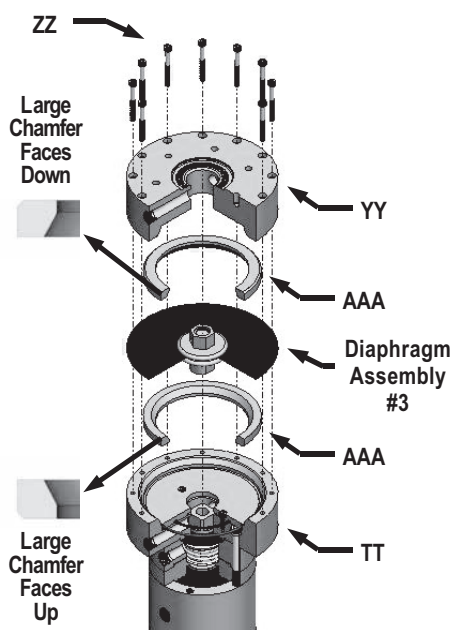

Figure 30
B. For a Middle Gain Pilot (Figure 30), follow Step 50A, except, add the Middle Gain Rings (AAA) on both sides of Diaphragm Assembly #3. Take special note of the orientation of the chamfer on each of the Middle Gain Rings (AAA) shown in Figure 30. Move to Step 51.